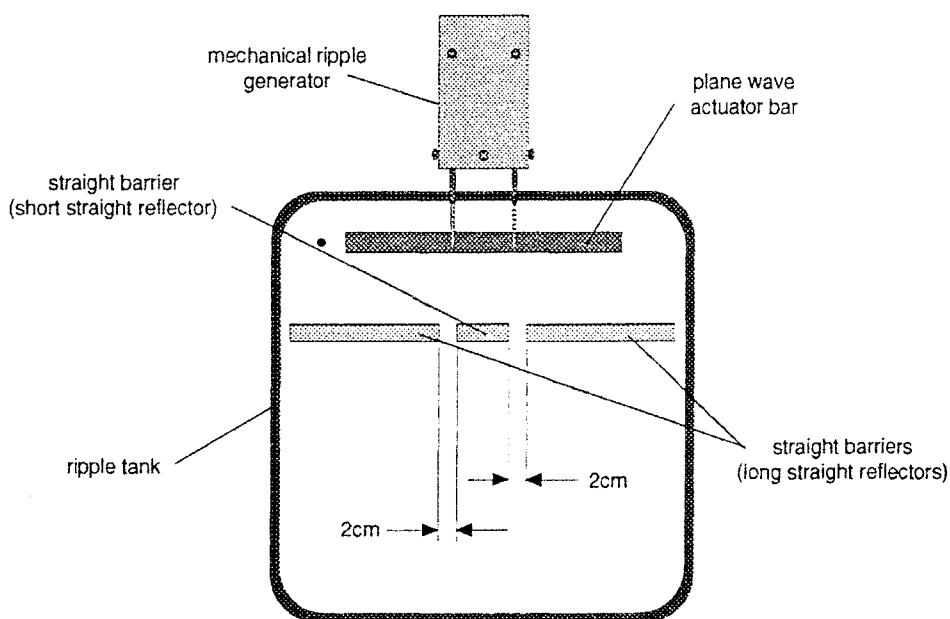

Figure 4.2: Position of Straight Barriers
- ① Place the short straight reflector between the two longest reflectors to form two openings about 2 cm as shown in Figure 4.2.